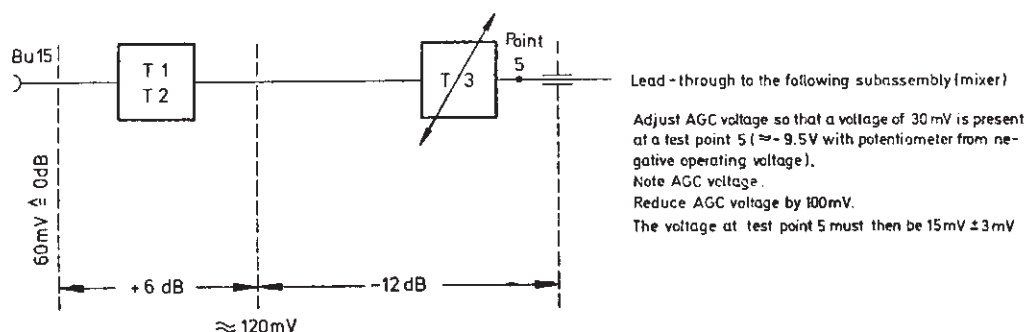

Fig. 5-3 Level schedule for the measurement of the RF levels at the buffer and AGC amplifier
**RF level check:** Test frequencies: 48 MHz (range II), 400 MHz (range VII). Measure with UHF-DC Millivoltmeter Type URV ( $Z_{in} \geq 50 k\Omega$ ;  $C_{in} \leq 1 pF$ ). See level diagram Fig. 5-3.
- Set the output attenuator to  $-20$  dB and connect the RF output (A) with the RF input (B) via a  $50\text{-}\Omega$  cable.
- Bring the cable line to coincidence with the EMF line by means of button "Vertical gain Y1". This line serves as reference line for the 0-dB amplification between (A) and (B).